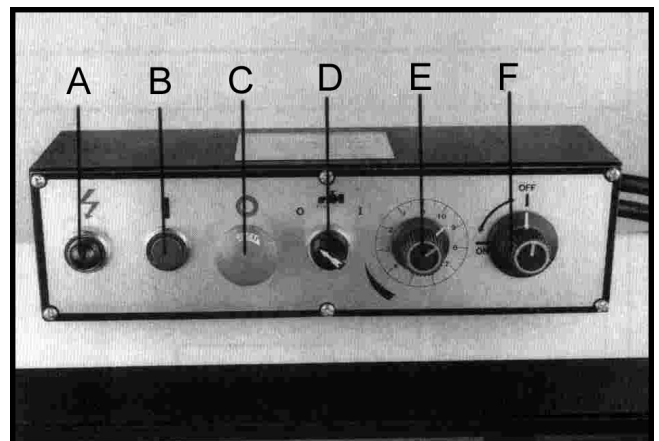

Fig. 2
Controls – Figure 2 & 3
2. Start machine by depressing start button (B, Fig.2).
4. Stop machine by depressing start button (B, Fig.2)
2. Turn hydraulic valve to on position (G, Fig.2).
3. Turn cutting pressure control valve (F, Fig.2) counter-clockwise until it stops.